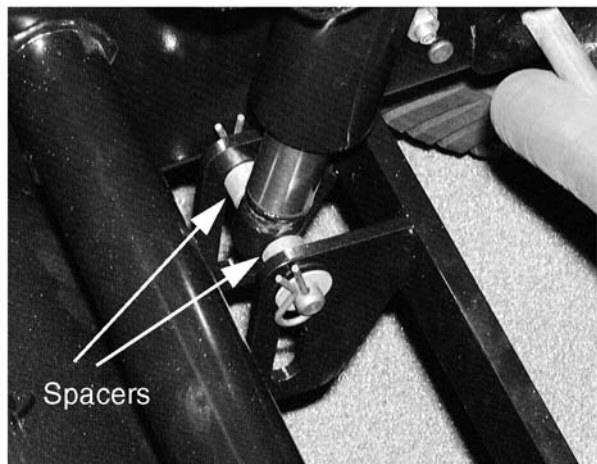

Figure 8-71.
24. Install the lower cylinder support rod. See Figure 8-71.